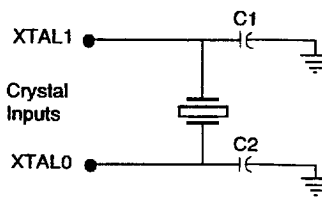

Figure 7: Crystal Connection
**Clock Oscillator/Driver Logic Unit:** A clock oscillator/driver is also available that will allow the user to eliminate that circuitry within his new design, or for use as another oscillator within the system. This logic will accept either a crystal, ceramic resonator, or TTL-compatible clock input and generate a MOS-compatible clock output and also an oscillator reference output. A fundamental parallel resonant crystal (Figure 7) is recommended. The preferred value of the two capacitors - C1 and C2 is 33 pF each.